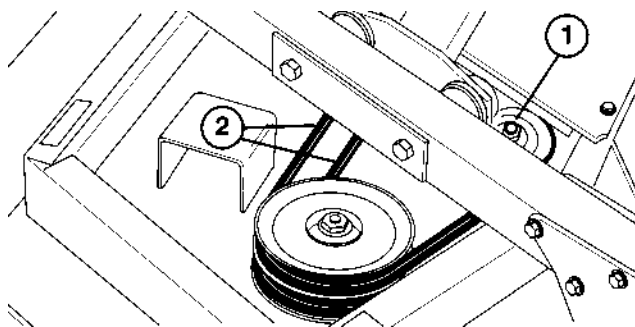

Figure 65
2. To tension belts, loosen the flange locknut at the top of the idler pulley (Fig. 65). Slide the pulley against the belt until proper tension is reached. Hold the pulley in position and tighten the locknut.
3. Remove the flange head screws securing the gearbox plate to the deck. To separate the plate and drive motor assembly from the deck, rotate the plate end toward the traction unit (Fig. 65). Tip the plate, motor and pulley assembly on its side and remove them from the deck. Be careful not to bend, twist, kink or damage flexible hydraulic lines.
2. Remove the deck covers and relieve belt tension on all belts (Fig. 65).